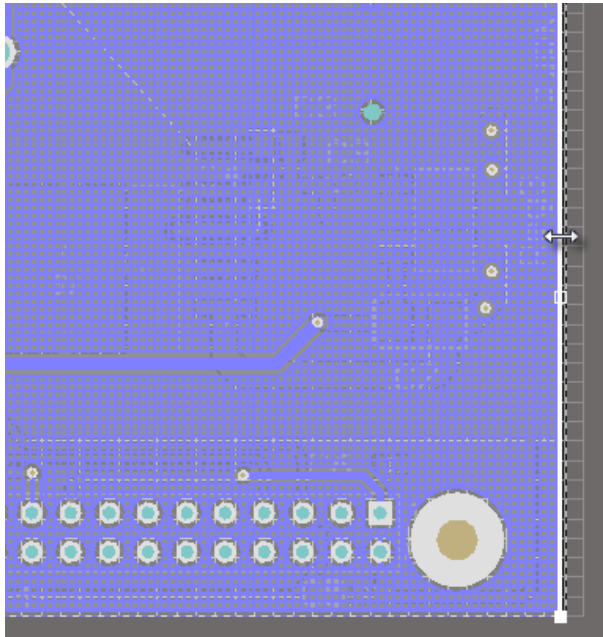

Figure 14. Hovering over the right edge of the polygon
46. Hover over the right vertical edge of the polygon. The edge will be highlighted by a thick white line and the cursor will turn into a 2-way arrow as shown in Figure 14.